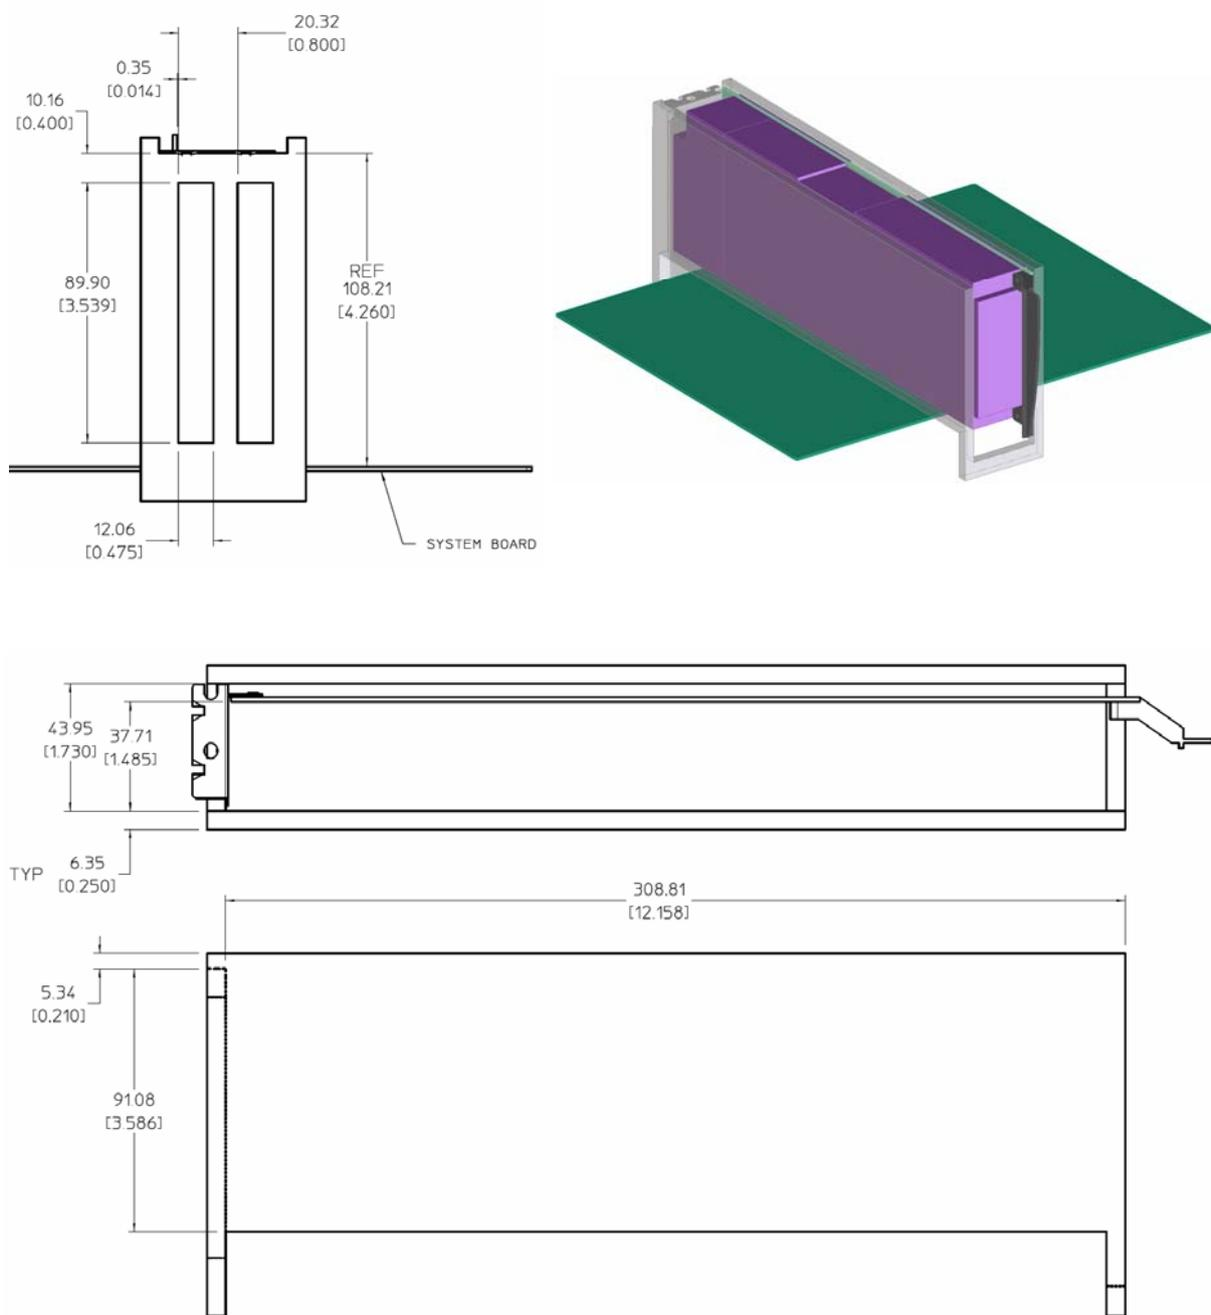

Figure 6-2: Thermal Characterization Fixture – Two-slot Version
- ❑ The measurement should be carried out on a 225 W/300 W high power add-in card with an open bench test setup system as shown in Figure 6-2 to Figure 6-4. Figure 6-2 illustrates a setup to test a card that occupies two slots. Note that dimensions in Figure 6-2 apply to other fixture versions shown in Figure 6-3 and Figure 6-4, except as noted otherwise. The fixture may be made of ¼ inch thick polycarbonate plastics, simulating full-length adjacent cards and a standard rear chassis panel.
- Install the card under test in one of the test setups or fixtures shown in Figures 6-2 to 6-4 according to the card volumetrics.